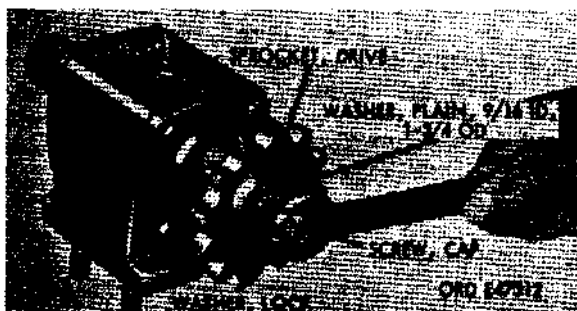

Figure 523. Removing drive sprocket
- (1) Make a note of relative position of sprocket end of shaft with bearing housing, so that shaft may be returned to this same position at reassembly.
- (2) Remove cap screw, lockwashers, plain washer, end drive sprocket (fig. 523) from drive sprocket shaft.